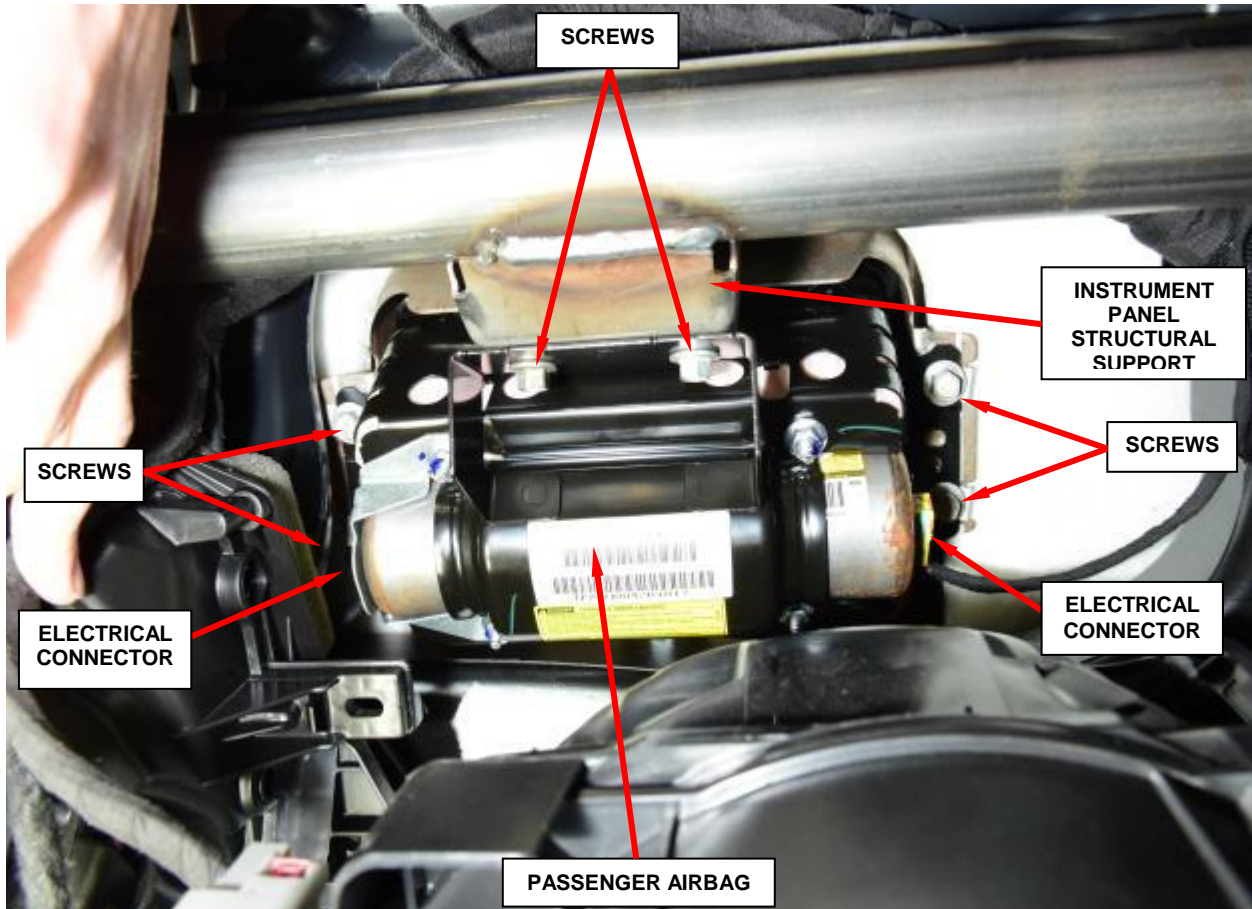

Figure 49 – Passenger Airbag
12. Reach through the instrument panel glove box opening to access and disconnect the two instrument panel electrical connectors from the two Passenger Airbag (PAB) initiators, one at each side of the PAB inflator canister (Figure 49).
13. Reach through the instrument panel glove box opening to access and remove and save the two screws that secure the PAB lower bracket to the instrument panel structural support (Figure 49).
14. Remove and save the four screws that secure the two upper PAB mounting brackets to the U-nuts on each side of the PAB retainer or chute on the underside of the instrument panel cover (Figure 49).